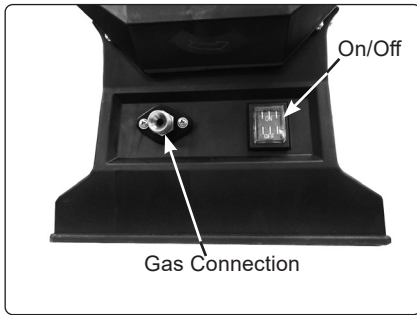

fig.3
- 5.1.1. Switch on/off switch (fig.3) to 'On'. Check that the fan is running.